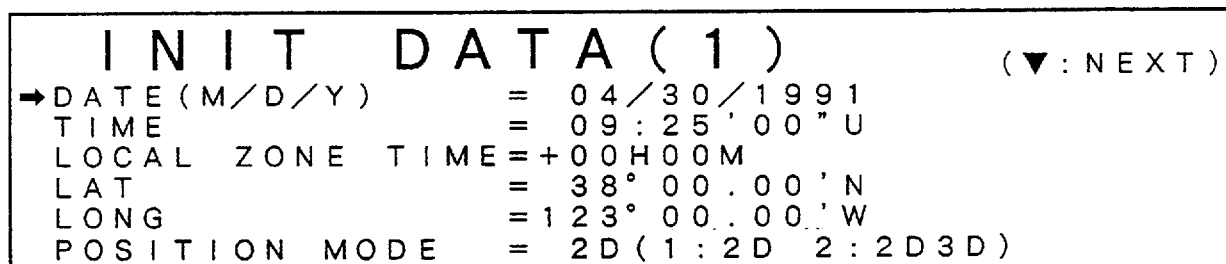

Figure 2-4 INIT DATA (1) menu
- 2) Enter menu number with numeric keys. For example, press **0** for the INITIAL DATA (1) menu. The menu shown in Figure 2-4 appears.